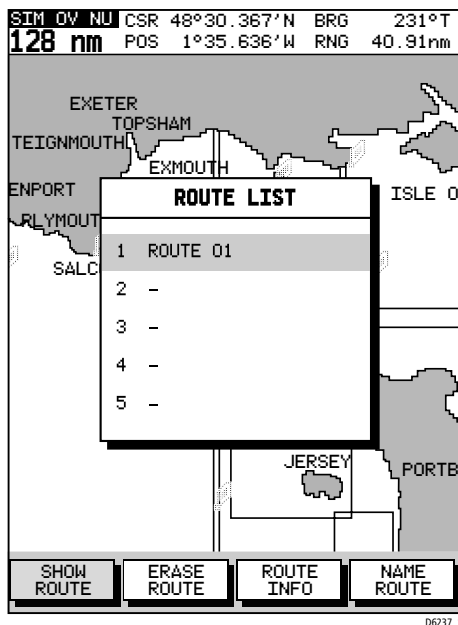

Figure 5-2: Route List Display
1. Select **ROUTES**, followed by **MORE**, then **ROUTE LIST**. The route list is displayed with the currently selected route highlighted (*Figure 5-2*).